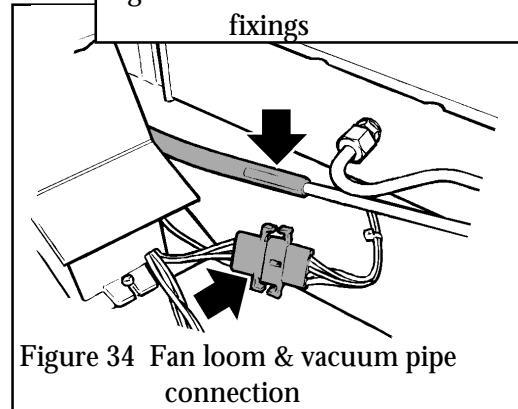

Figure 34 Fan loom & vacuum pipe connection
13.9.3 Detach the fan wiring loom connection. (see figure 34).
13.9.4 Detach the plastic vacuum tube from the metal vacuum pipe (see figure 34).